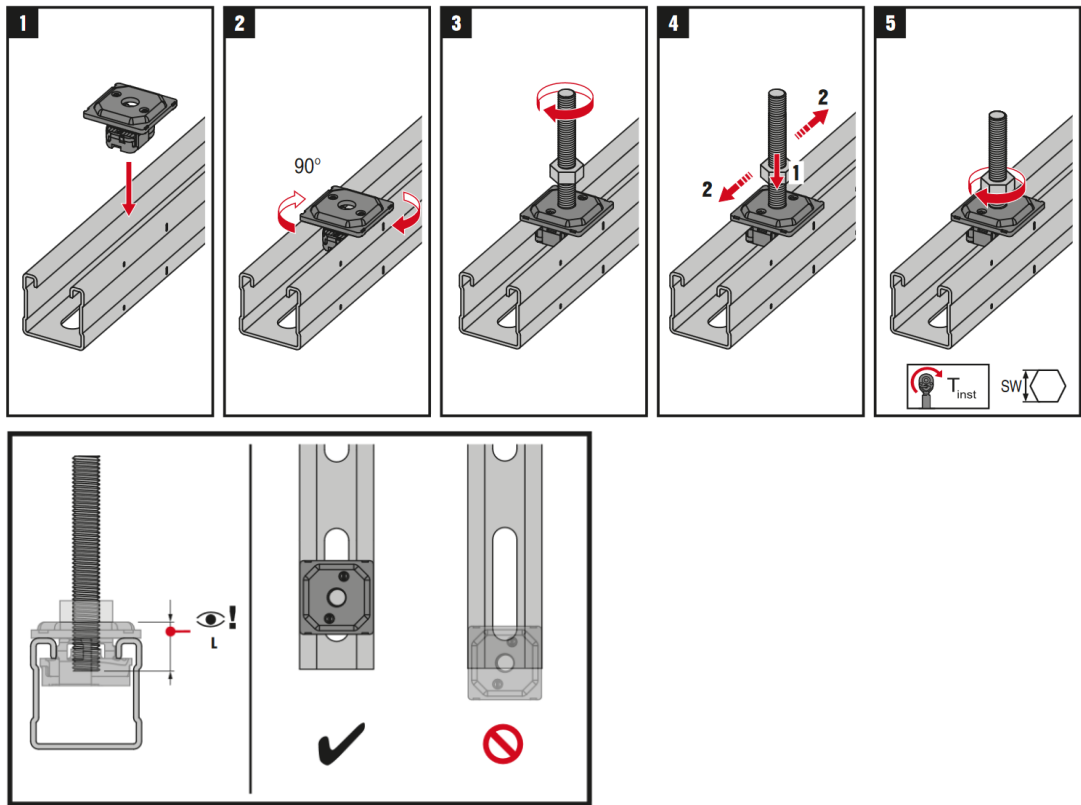

Figure 5-37 Installation thread rods in ring saddle
- Threaded rods have to be fixed in ring saddles with nuts, perhaps shorten threaded rods suitable for pole. (See Figure 5-37 Installation thread rods in ring saddle)